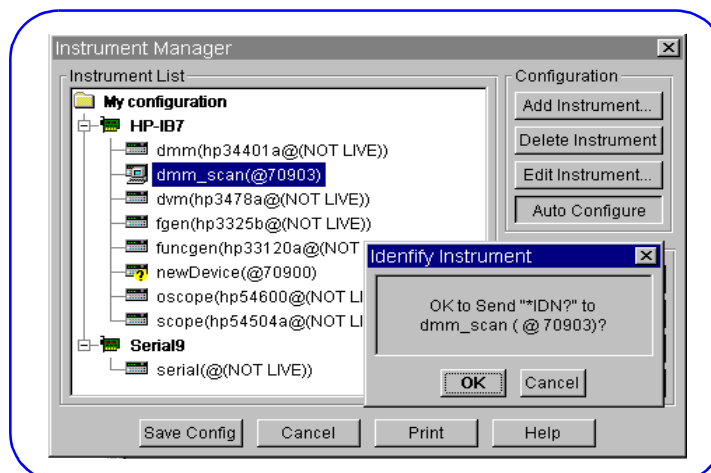

Figure 33. HP VEE Instrument Manager - Auto Configure
- 4 To verify communication with the HP E1411B, highlight the *dmm_scan (@70903)* line and then click *Auto Configure* to display an **IDN?* message box similar to Figure 33.